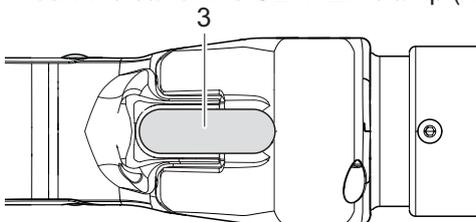

Fig. 15: Start closing
2. Press the START button (Fig. 15/3) and hold it pressed down.
1. Release the START button (Fig. 15/3).